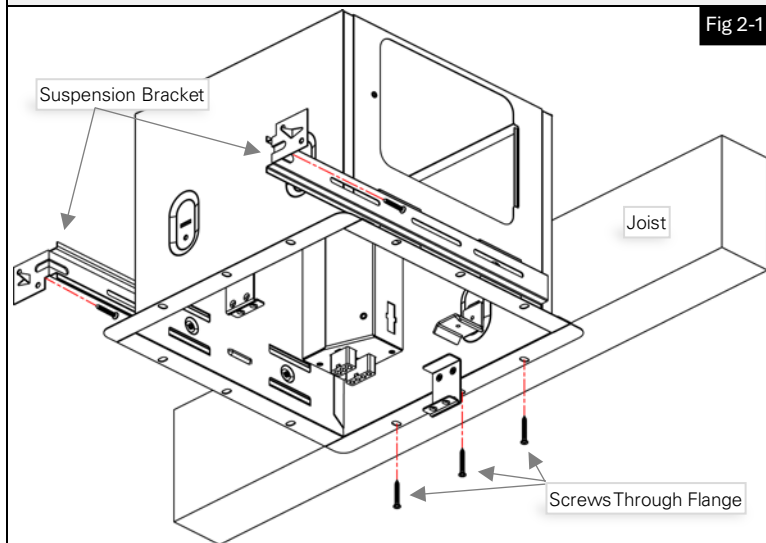

Fig 2-1
2. Slide suspension brackets (Part #6) into the channels on side of housing and secure to joist. If spacing between joists is greater than 16", add extension brackets (Part #7) (**Fig 2-1**).